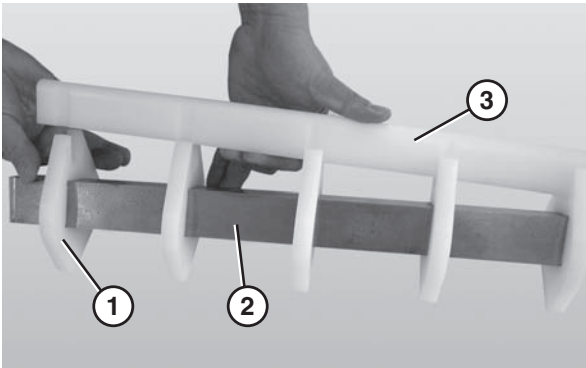

**Figure 65**
- Slide the nose bar drive or transfer post (**Figure 65, item 1**) out of the nose bar drive weldment or idler hands (**Figure 65, item 2**).
- Remove the nose bar tracking pucks (**Figure 65, item 3**), if applicable.